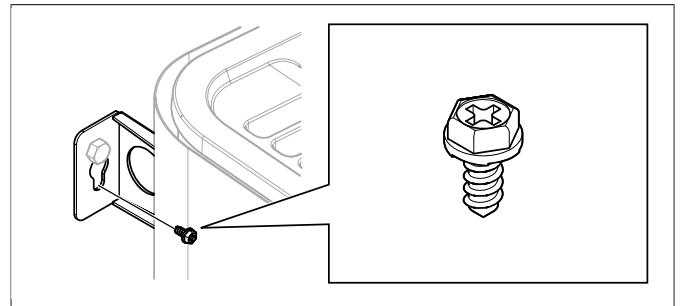

Figure 13: Lock screw for bracket
12. Lock the heater into place with the lock screw see **Figure 13**, Page 5.